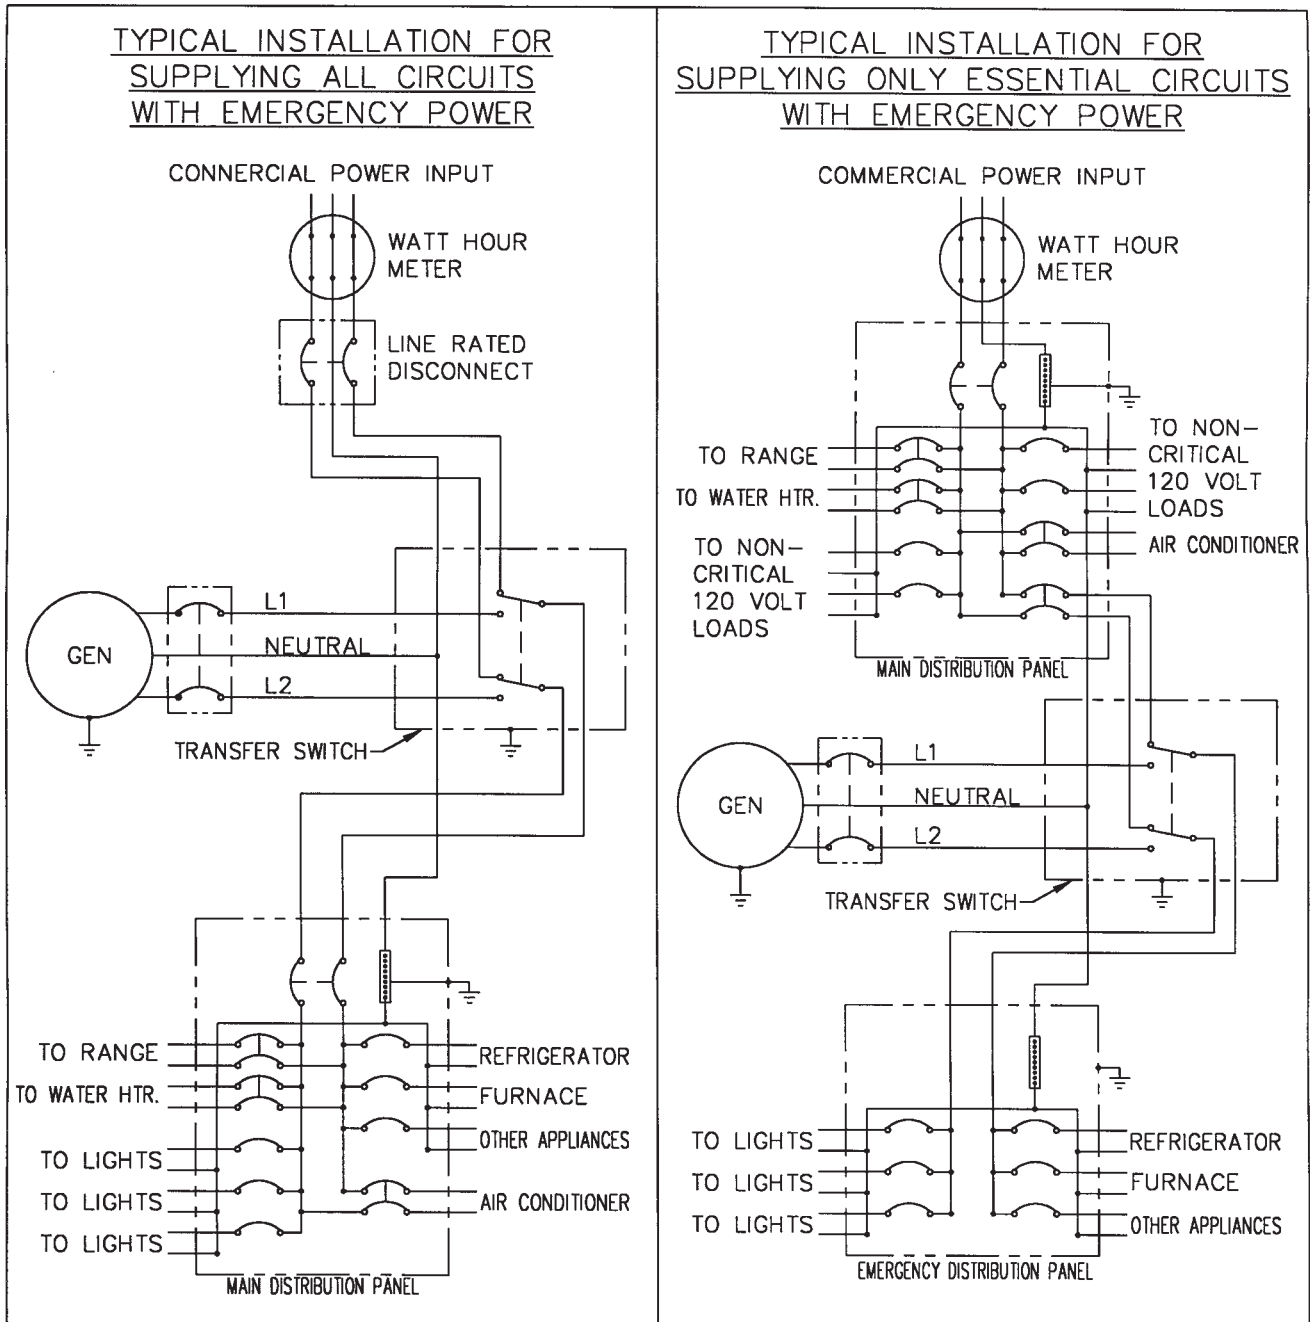

FIGURE 6
IF THE GENERATOR IS TO BE USED AS A STANDBY POWER SOURCE, A MANUAL TRANSFER SWITCH MUST BE INSTALLED TO SEPARATE THE GENERATOR AND THE COMMERCIAL POWER LINES. THE SWITCH MUST ISOLATE THE GENERATOR FROM THE COMMERCIAL POWER LINES AND THE LOAD WHEN THE GENERATOR IS ON STANDBY, AND MUST ISOLATE THE COMMERCIAL POWER LINES FROM THE LOAD AND THE GENERATOR WHEN THE GENERATOR IS SUPPLYING POWER. SEE FIGURE 6
C. The splined generator input shaft should be cleaned and lubricated with a thin film of grease before and after each use of the generator. See Figure 6 for lubrication schedule.